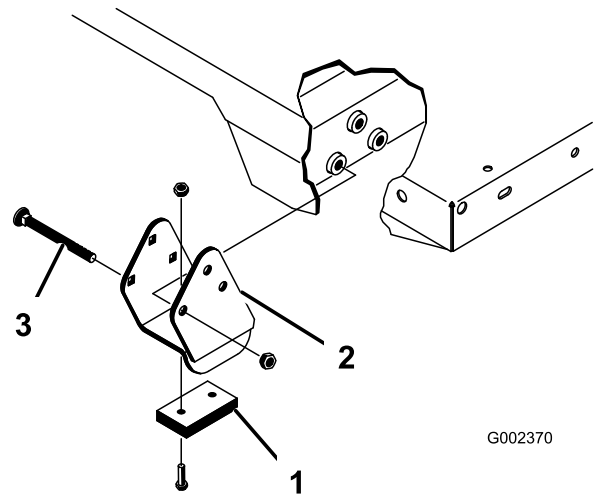

Figure 25
Ensure that the spacer brackets and wear blocks (Figure 25) are installed with the carriage-bolt heads positioned inside the machine.
2. Carefully set the bed onto the machine frame, aligning the rear bed pivot-plate holes with the holes in the rear frame channel, and install the 2 clevis pins and lynch pins (Figure 25).
4. Insert the clevis pin from outside of the bed with the lynch pin oriented toward the outside (Figure 25).